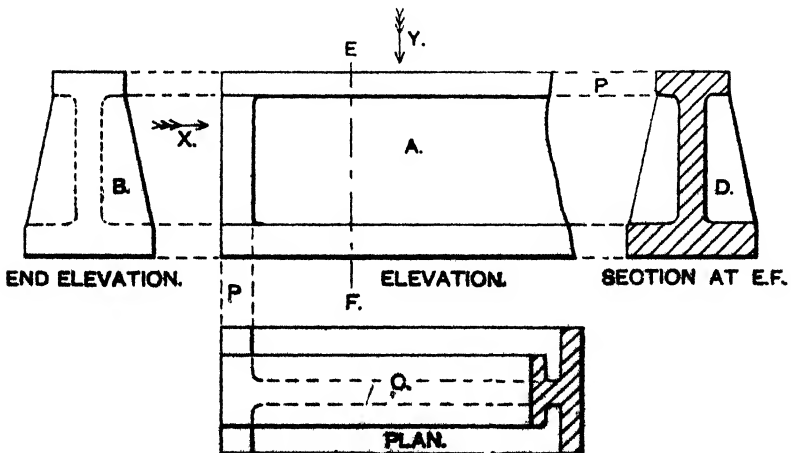
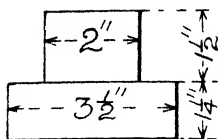
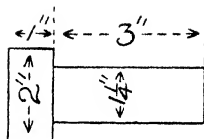
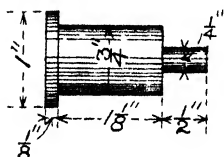

FIG. 1
FIG. 3.
FIG. 4.
FIG. 5.
The chief purpose in Machine Drawing is to enable the designer or draughtsman to convey his ideas to the workman, so that the mechanism or machine can be constructed. It is therefore necessary for the drawing to give the exact size and form of the machine and its several parts. For this purpose Orthographic Projection is used. An example of this is shown in the accompanying sketch, Fig. 1, where the principle of projection is applied to the drawing of a cast-iron beam.
NOTE.—In preparing drawings of any object each view must be properly projected one from the other as indicated by the dotted lines marked P on Fig. 1. For the guidance of beginners, projection lines have been inserted in all the examples on pages, 7, 8 and 9, to show how the respective views must be drawn; after a little practice students will find that it is not necessary to show these projection lines, the *centre lines* alone will be sufficient.
In preparing machine drawings, elevations and plans do not always show clearly the construction, so in order to make the parts clear the detail or object is supposed to be cut through by planes in such directions that the arrangement of the parts is clearly shown. In Fig. 1, the beam is supposed to be cut through by the plane E.F., and the solid parts so cut are "section lined," see view D., these section lines must always be drawn with the angle of  $45^\circ$ . In drawing sectional views it is usual to show rivets, bolts, rods, and shafts (when seen at right angles to their axes) in *outside elevation*, as it will readily be seen that their sections are obvious. The ordinary way of drawing these details is shown on pages 10, 11, 25, 27, etc.
If any line in the object drawn cannot be seen from the point at which it is viewed, such a line is shown dotted, an illustration of this will be seen in Fig. 1, views B. and C.
In preparing drawings, sufficient views should be drawn to make the design of the machine or its parts quite clear. These should be neatly arranged on the drawing paper, with a suitable space between each view, and not crowded together or near one edge of the paper. A little care at the outset in calculating the space each view will occupy, will prevent *bad arrangement*. Fig. 1 shows how the views are usually arranged in relation to each other.
and not as in Fig. 4. If the lines are too close together, the arrow points may be placed on the outside, see Fig. 5, but where there is sufficient room they should always be placed inside the lines as in Fig. 3.
In marking the distance between two lines be careful to put the arrow points close to the line as shown at Fig. 3,
In many drawing offices the usual procedure is to keep the drawings in pencil, and to make the tracings in ink, from which photo or "Blue-prints" are made. In making tracings care should be taken to get the lines of uniform thickness, and to make the joints neatly where a straight line joins an arc of a circle. Some offices favour one thickness of lines throughout the tracing, whilst in others two thicknesses of lines are used in the same tracing, as shown at Fig. 1. (*See notes on back-lining, page 6.*)
- (1) *Backline Shading.* A drawing is greatly improved by back-lining or line shading, *i.e.*, making the right-hand side and bottom lines rather thicker (*see* Figs. 1 and 3); round parts may also be lightly shaded to make them clearer as shown at Fig. 5.
- (2) *Colouring.* Water colours are often used to indicate the Metals employed in the construction of the different parts of machines. The following table shows the colours used by engineers for the various materials.